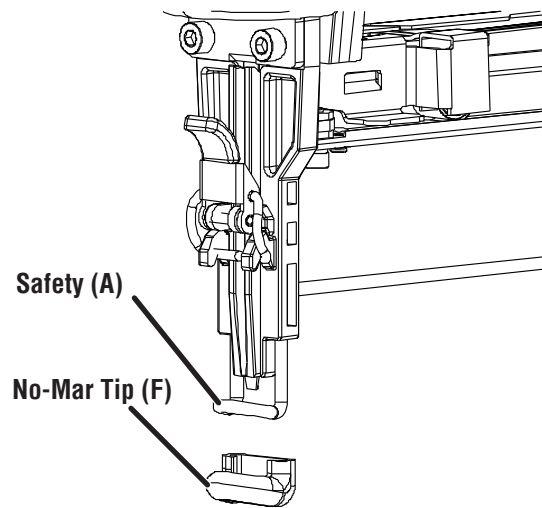

Fig. 17
- 3) Remove the finger from the trigger and press the safety (A - Fig. 17) against the wood.
If you like to protect the surface of workpiece against scratches or markings made by the safety, attach the accessory No-Mar Tip (F) to the safety device (A) (Fig. 17).